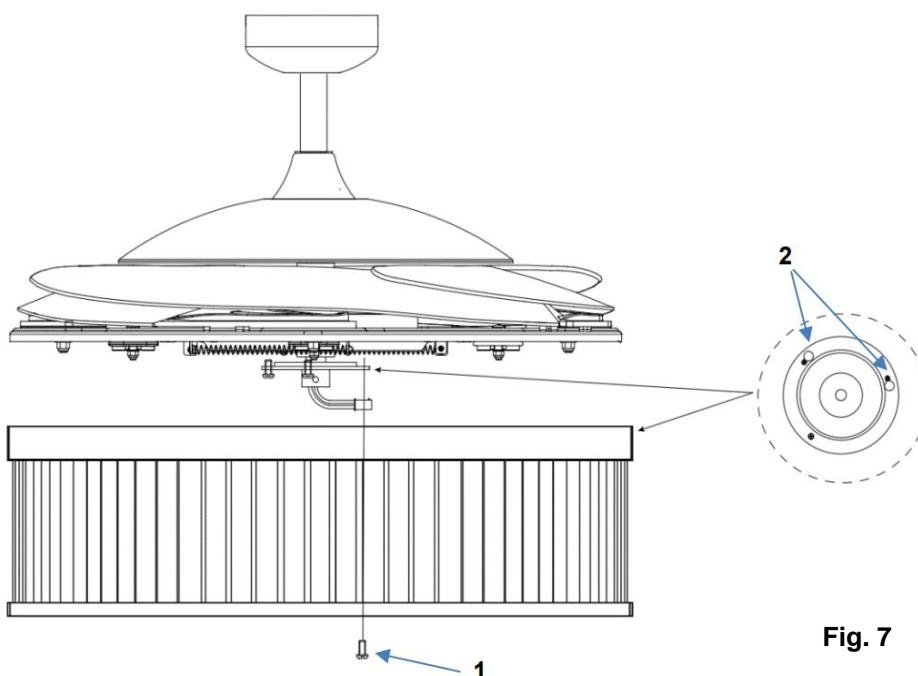

Fig. 7
LIGHT KIT INSTALLATION (Fig. 7 & 8)
1. Loosen the screw (1) from the fan bracket. Align the two slot screws with the keyhole slots (2) of the lamp shade bracket. (Fig. 7)
2. Turn the lamp shade counterclockwise until the slot screws are firmly at the end of the slots (2).
3. Secure screw (1) to the lamp shade bracket. Tighten all three screws. Do not over-tighten.